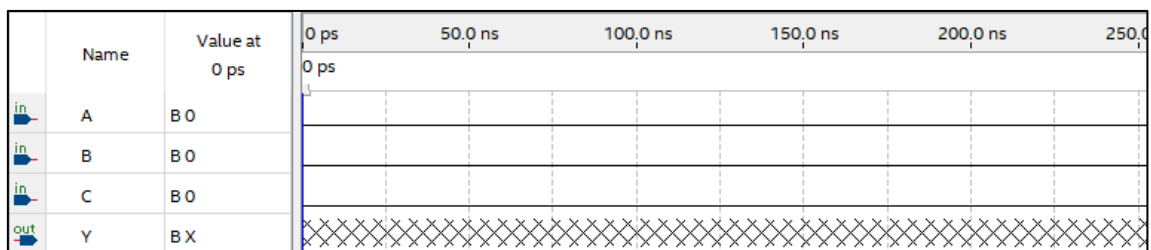

Figure 8: Vwf window with 25 ns grid size
1. Use the magnifying glass to zoom in on the waveform window until you can see 50 ns intervals as seen in the image of Figure 8.
2. Using your mouse (make sure the pointer is selected), click and drag your mouse cursor across 50 ns to 200 ns on input A to select the area. Now select the “1” button on the toolbar (or select “Edit”, ”Value”, “Forcing High (1)”) to set this signal to High during this time window.